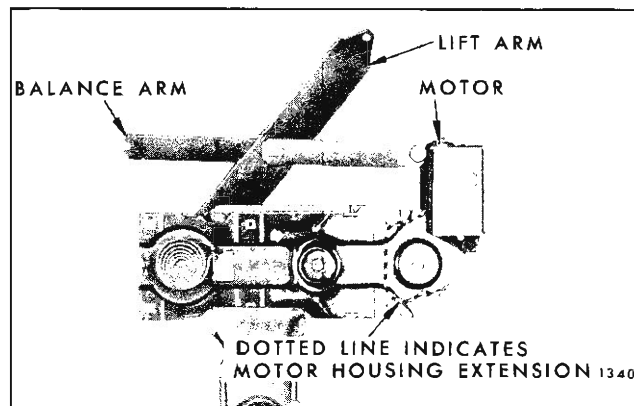

Fig. 1D42—Door Window Regulator and Electric Motor Assembly
4. Remove window regulator attaching bolts (Fig. 1D37). Run regulator balance arm roller and lift arm roller out of lower sash channel cam at front. Remove regulator through large access hole.
1. Remove front door window electric regulator and clamp assembly in a vise. (See Fig. 1D42).
**IMPORTANT:** DO NOT drill into the motor housing, part of which is indicated by the dotted line illustrated in Figure 1D42. In addition, locate hole a sufficient distance from edge of sector gear to insure proper retention of sector gear to back plate.
4. Remove regulator motor attaching bolts and remove motor from regulator assembly. (See Fig. 1D42).